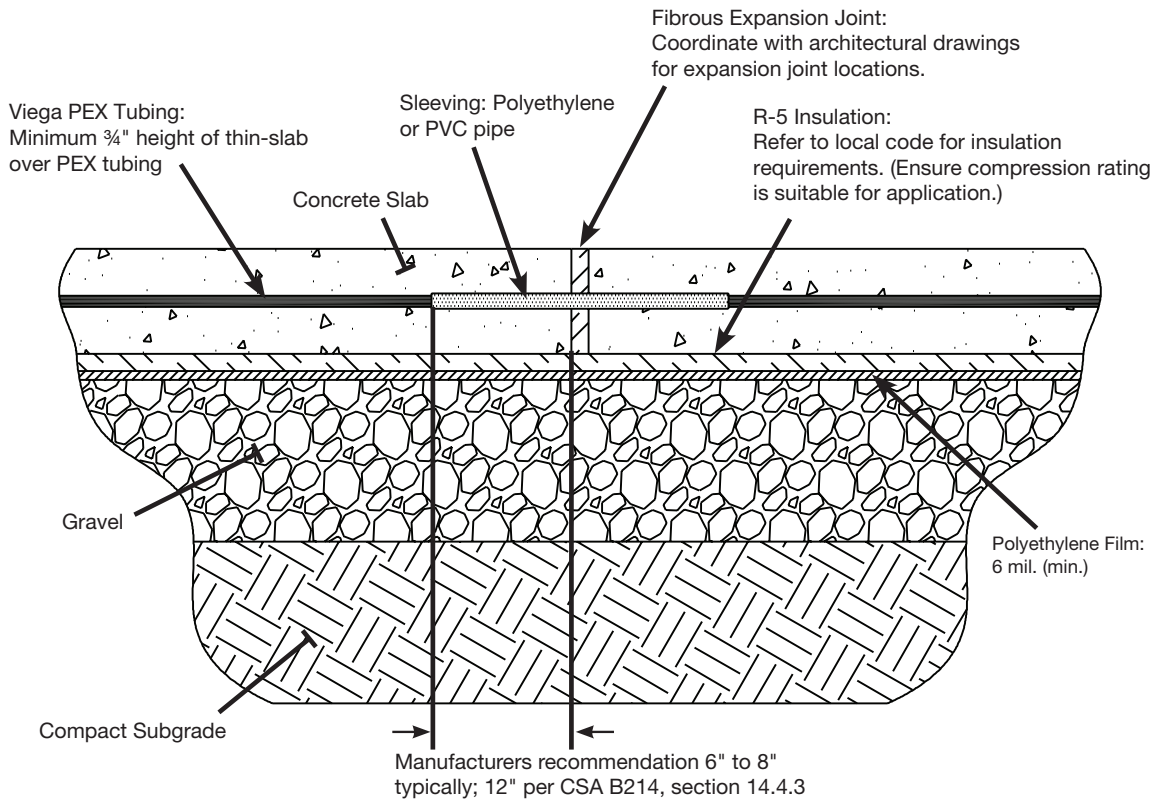
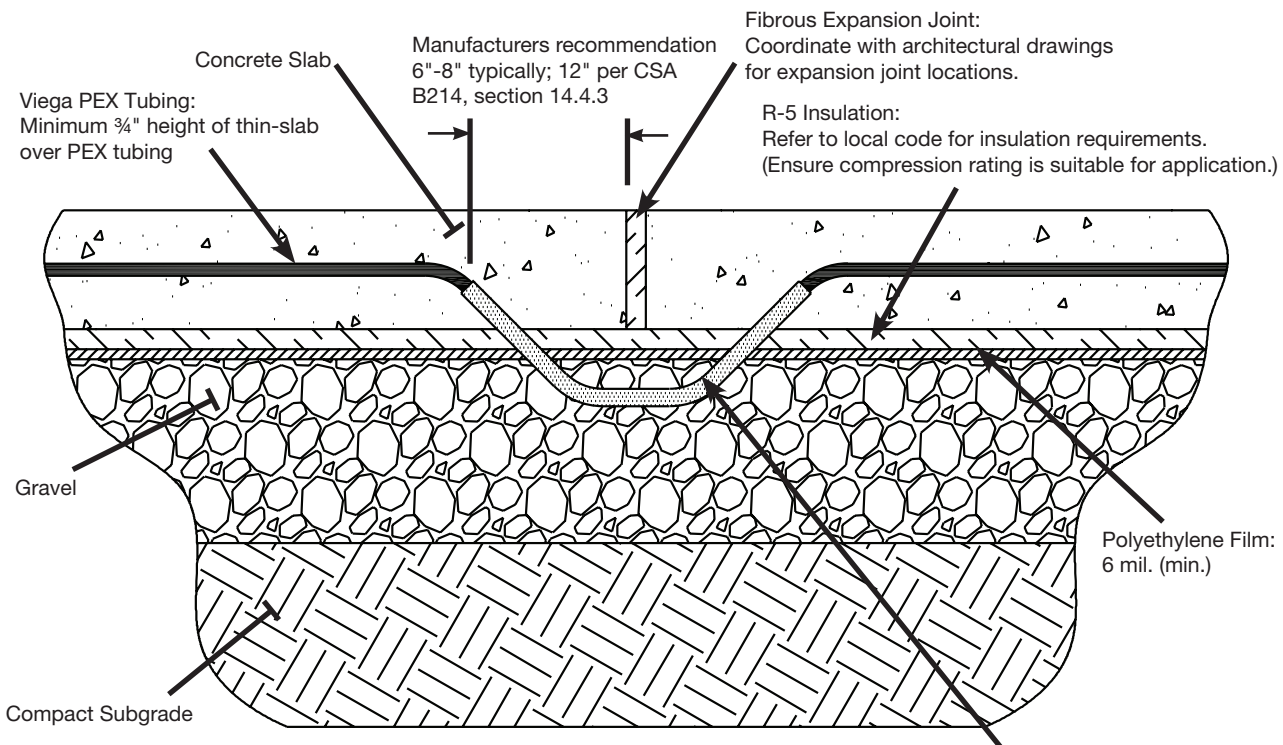

Figure 4-4a Section through fibrous expansion joint
Figure 4-4b Section through metal expansion joint
- Minimize penetration of expansion joints in concrete (Figure 4-1). Any tubing that passes through concrete expansion joints must be protected with a protection sleeve for a minimum of 6" (15cm) on both sides of the joint. Cross-sections of sleeving at expansion joints are provided in Figure 4-4a and Figure 4-4b.